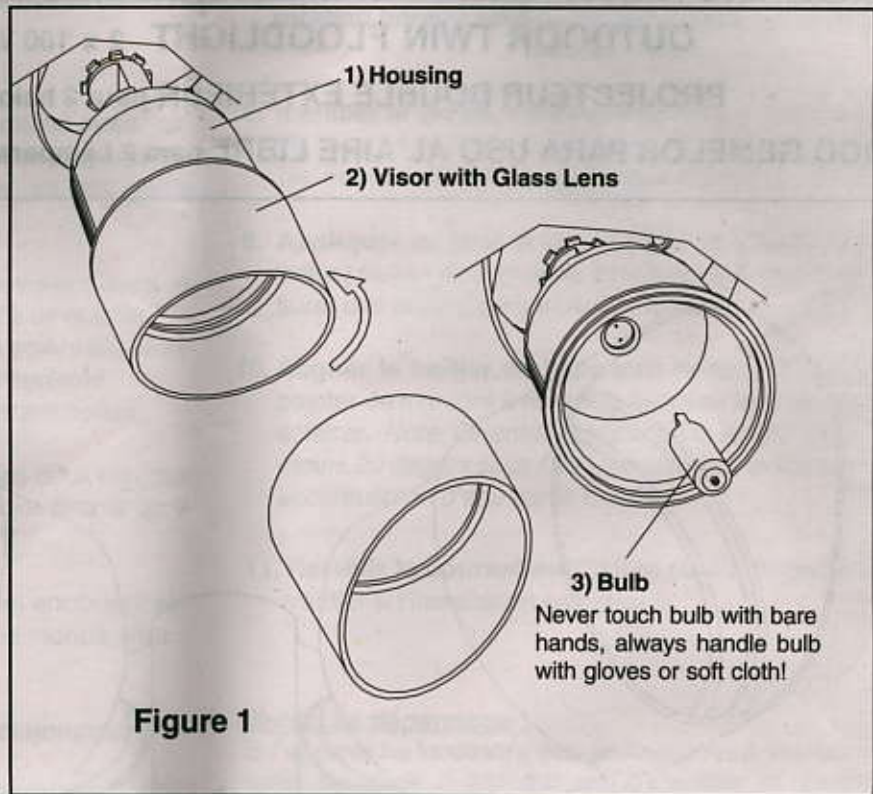

Figure 1
2. **To remove Visor (2)**, turn visor counterclockwise until notches on visor and Housing (1) align and remove visor. *Note: there will be some resistance just before notches align. See Fig. 1.*
3. **To install bulb (3)**, insert pins of the single ended T-4 Type GY8.6 max. 100 watt, 120V Bi-pin quartz halogen bulb into lampholder.
4. **To replace Visor (2)** align notches and turn clockwise to tighten.